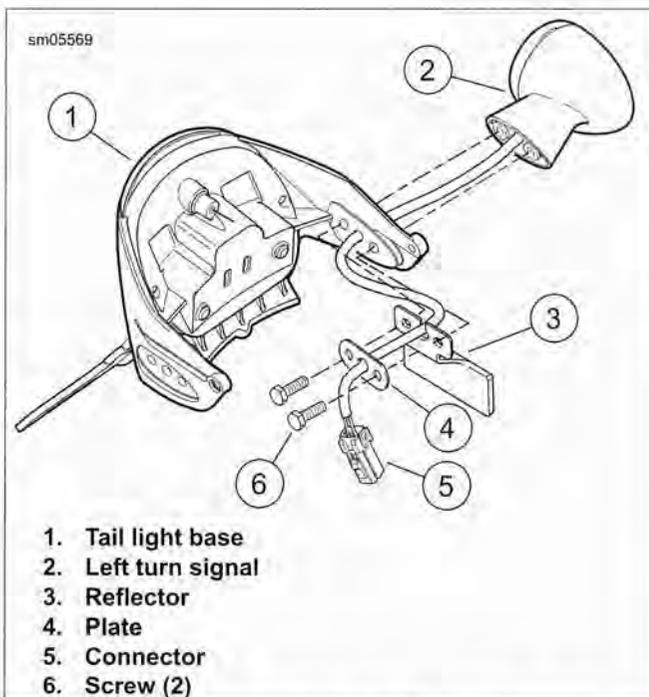

Figure 6-91. Turn Signal Housing Removal: XR 1200X
5. See Figure 6-91. Remove screws (6), plate (4), reflector (3) and turn signal housing (2).
1. See Figure 6-91. Install turn signal housing (2), reflector (3), and plate (4) with screws (6). Tighten screws to 30-40 **in-lbs** (3.4-4.5 Nm).